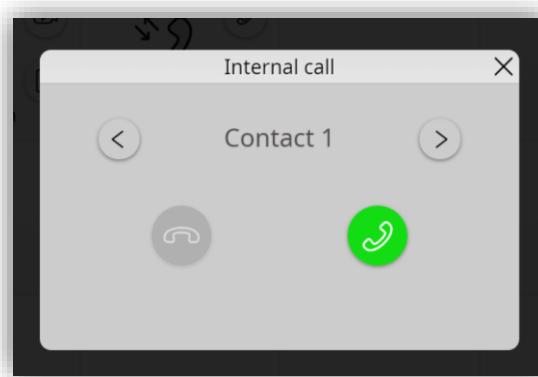

Figure 112. Contacts list
**Note:** The interface in Figure 112 will also be displayed if the **Import contacts** “from web” option (see section 2.1.14.2) is not enabled and the contact list is configured in ETS.